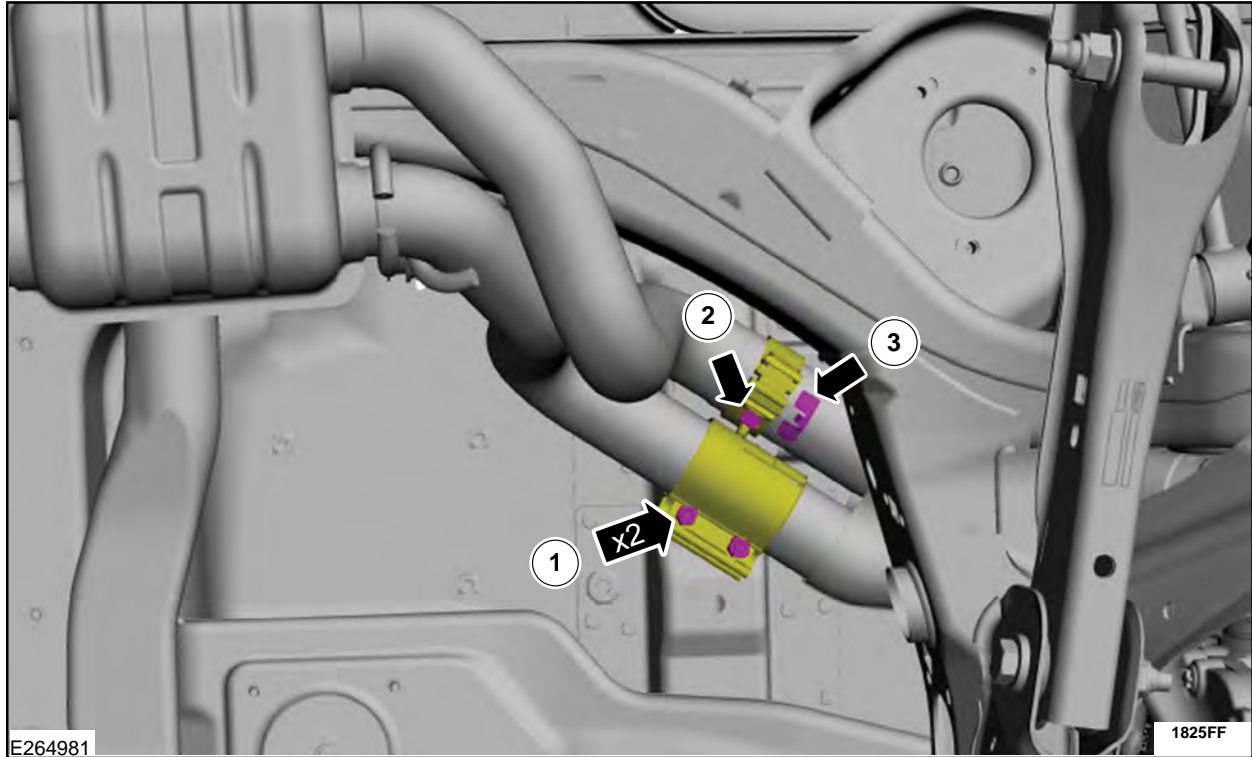

FIGURE 9
24. Loosen the muffler and tailpipe clamps. See Figure 9.
25. Release the locator tabs releasing the muffler and tailpipes. See Figure 9.